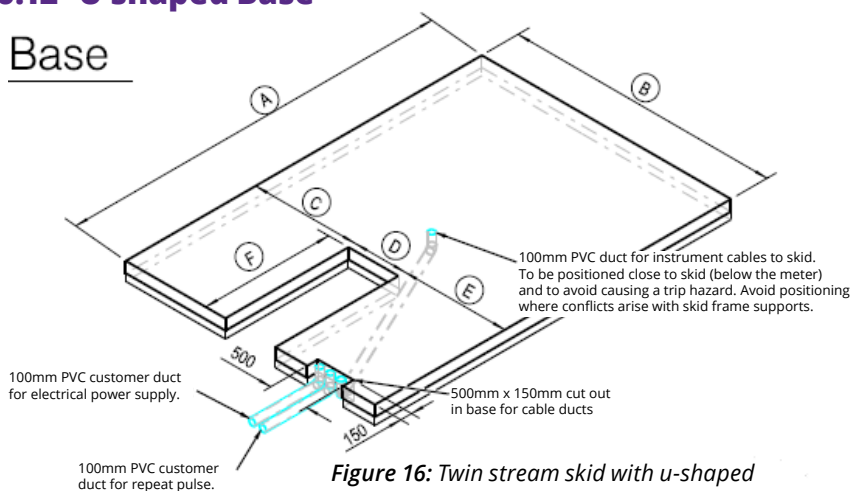

Figure 16: Twin stream skid with u-shaped base details
- Twin stream as per pages 45, figure 16 and table 5.